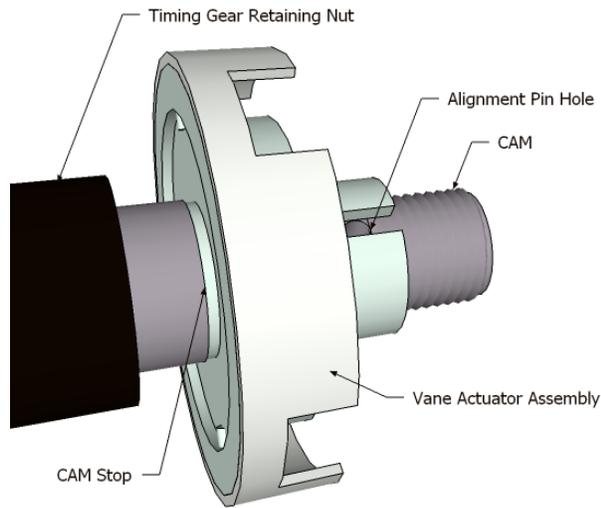

Figure 1. Vane Actuator Assembly Should Rest Against CAM Stop.
7. Install Vane Actuator Assembly on CAM. Verify the Vane Actuator Assembly rests on the CAM stop as illustrated in Figure 1 and not the timer cover.